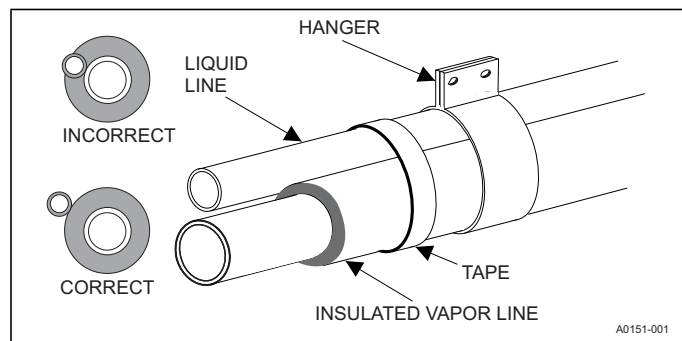

FIGURE 3: Installation of Vapor Line
5. Tape and suspend the refrigerant lines as shown. **Do not** allow tube metal-to-metal contact. See Figure 3.